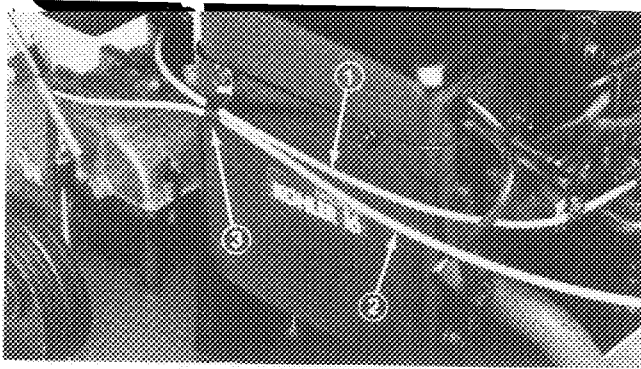
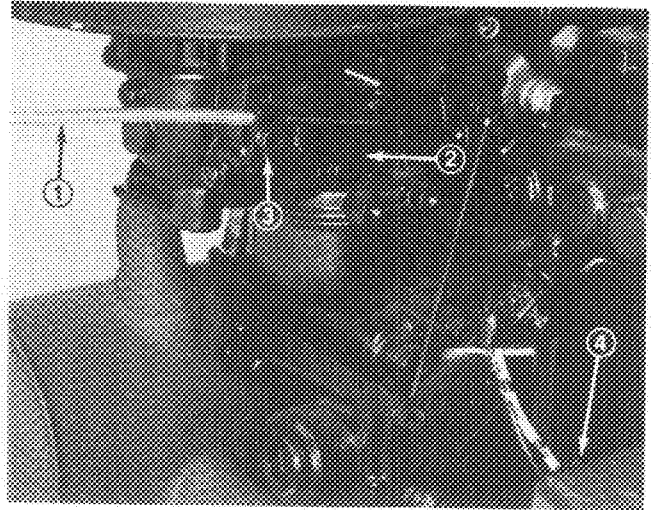

Figure 5
Figure 7
2. Route throttle cable under fuel tank supports and around right side of engine (Fig. 5).
2. Route choke cable around right side of engine (Fig. 5). Hook cable end into hole in carburetor choke lever (Fig. 7).
3. Loosen cable clamping screw allowing cable installation, but do not tighten (Fig. 7).
4. Pull firmly on choke cable and tighten cable clamp screw (Fig. 7).
5. Secure choke and throttle cables to right side of engine with cable clamp and engine cover mounting bolt (Fig. 5).
1. Route harness around left side of engine and secure male and female connectors at front of engine (Fig. 7).